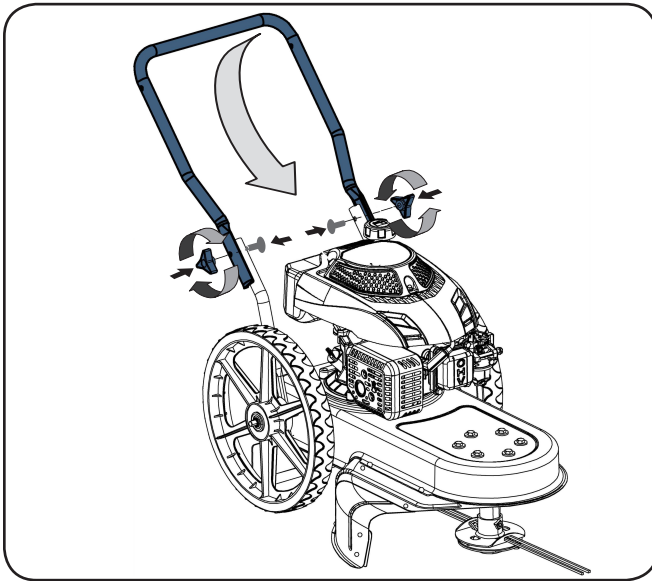

Figure 3-1
2. Pivot the middle handle into the operating position and fasten the middle handle. See Figure 3-1.